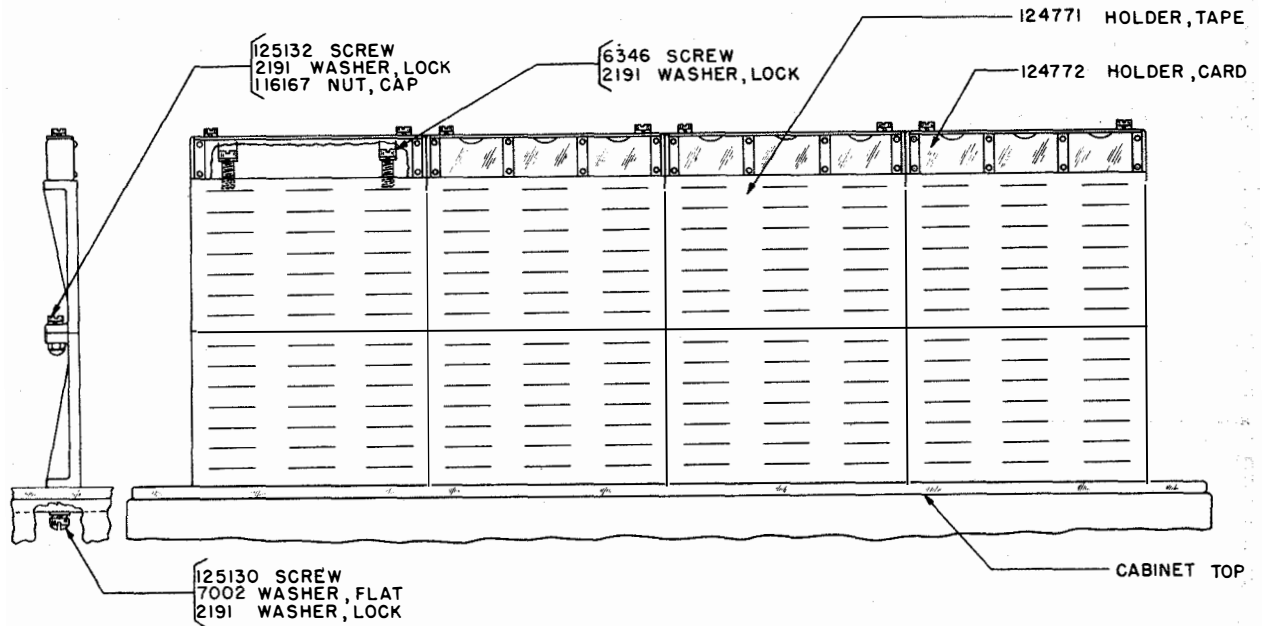
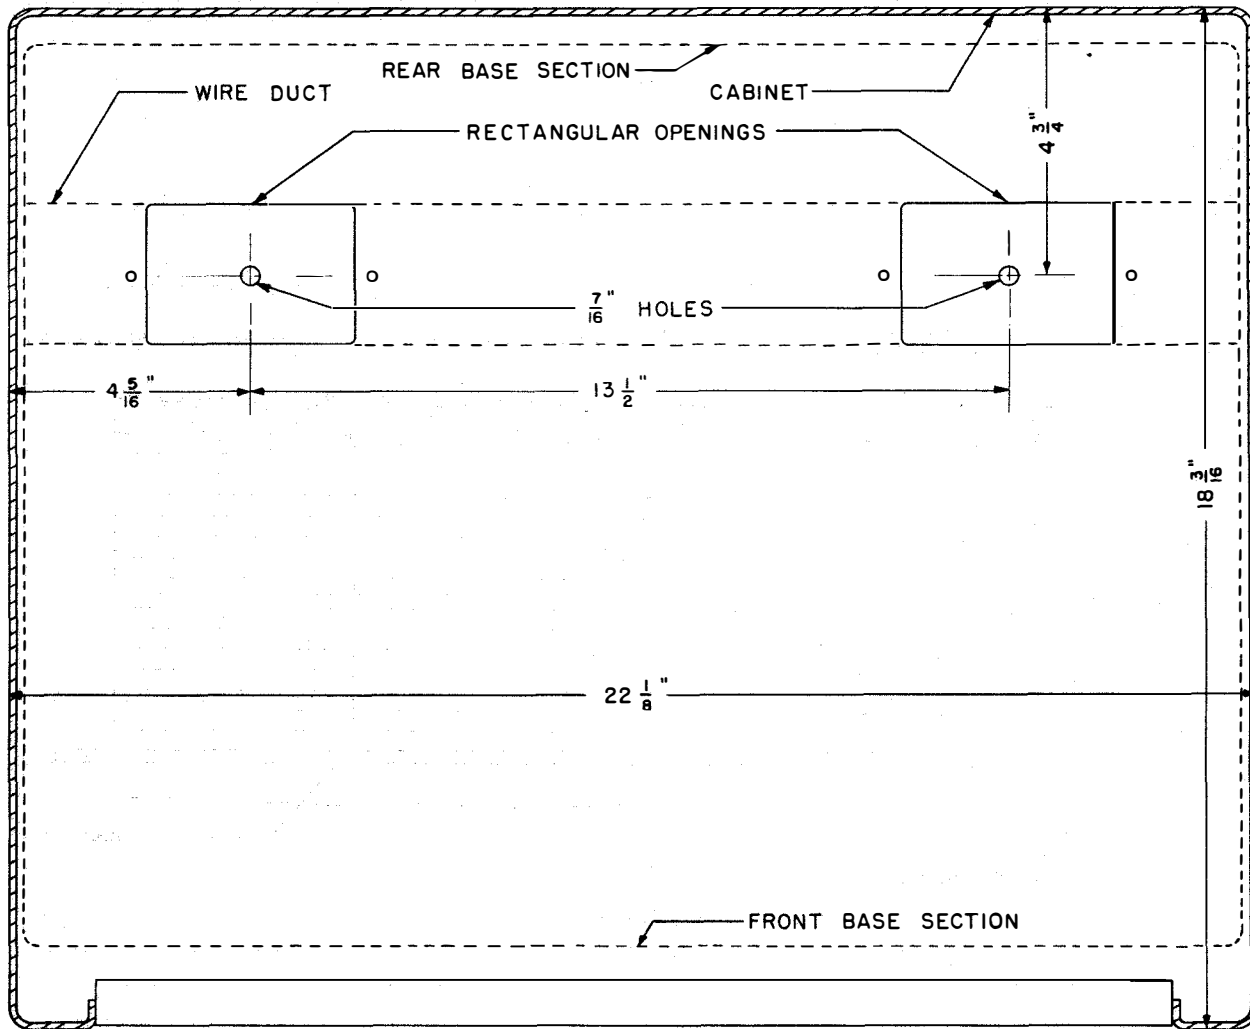

FIGURE 1
FIGURE 2
(1) Unpack all parts and units with care. Muslin bags and small parts should be kept with their associated pieces of apparatus until used in installation.
(2) Two 1/2" holes are provided in the horizontal duct of the cabinet base to secure the cabinet to the floor. Suitable holes should be provided in the floor where the cabinet is to be installed in accordance with dimensions shown on Figure 2.
(3) Place the cabinet in position, remove the two base duct covers inside the cabinet, and secure the cabinet in position. It is recommended that 1" (outside diameter) washers be used over the 1/2" holes in the base.
(4) Bring in signal line and power circuits through the openings in the cabinet base and through the duct at the left side of the cabinet and up to the terminal block and electrical service assembly. Connect the line and power circuits to the terminal block and service assembly as shown on Wiring Diagram 2750WD but do not apply power until the installation is completed.
(5) Secure each section of tape sorting grids to the top of the cabinet as shown in Figure 1.
(6) Place the small tape bin on the studs in the rear door.
a. Base Wire Duct (Figure 2)